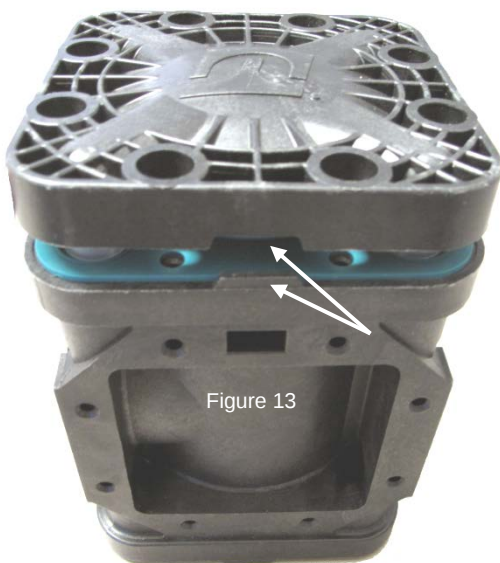

Figure 13
10) Install the cap over the diaphragm. The cap has a slot molded into it to insure proper alignment (figure 13). Insert the screws back into their holes and **HAND START** the threading process. Once they have begun to thread back into the housing use a **HAND SCREWDRIVER** to screw them back into place (50 in* lbs. for a Phillips head screw, 75 in*lbs for T30 TORX bit).